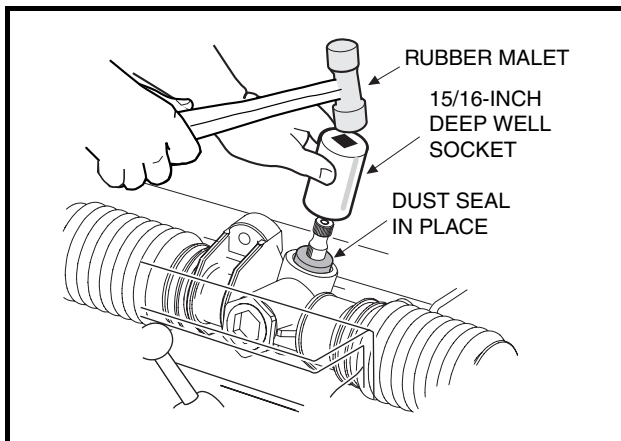

Figure 7-10 Press In Dust Seal
4. Install the large snap ring (2).
5. Use a socket to apply pressure evenly and press in a new dust seal (**Figure 7-10, Page 7-9**).